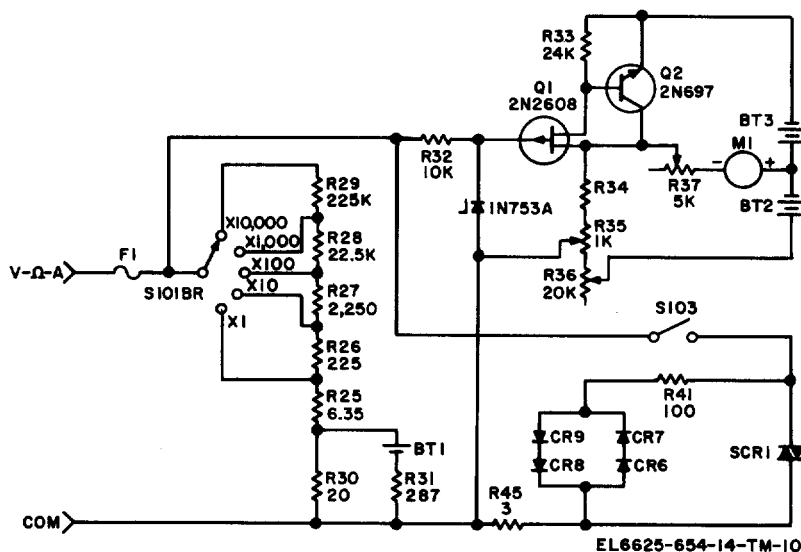

Figure 4-6. Simplified ohmmeter circuit.
a. **Circuit Description.** Figure 4-6 illustrates a simplified schematic diagram of the ohmmeter circuit. An open circuit potential of less than 120 millivolts for "safe" measurements in solid state circuitry is provided. This is obtained by dividing down the 1.5-volt potential of battery BT1 with a voltage divider made up of resistors R30 and R31. The operating potential of 120 millivolts is developed across R30. The positive end of the battery is connected to the COM terminal. The negative end of R30 (negative ohmmeter supply